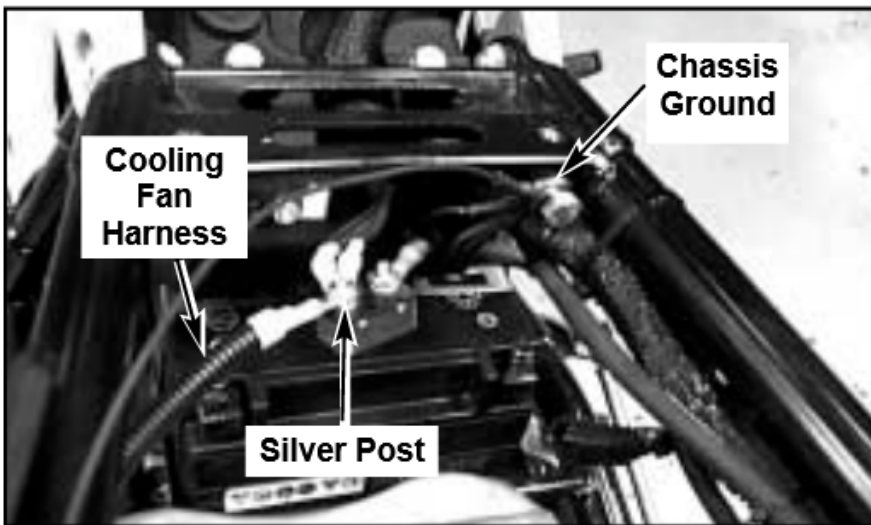

Figure 9. Install Cooling Fan Harness
13. See Figure 9. Remove nut from silver (Axillary) post of main circuit breaker. Place ring terminal (from red wire) of harness (P/N Y0051.K) on silver post, then re-install nut.